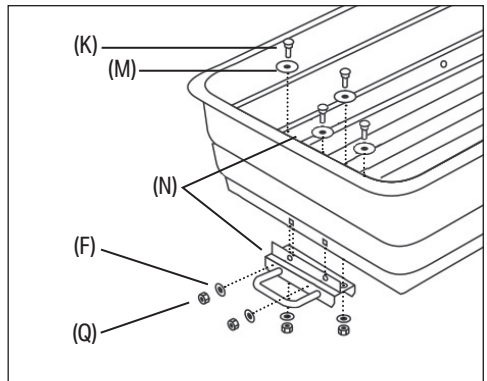

Fig. 2
2. Attach the lock assembly to the hopper - Fig. 2:
- a. Align the lock assembly (F) with the four holes at the straight end of the hopper.
- b. Pass four M8 x 20mm round-headed bolts (K) each through an M10 washer (M) and outward through the hopper and lock assembly.
- c. Secure each bolt in place with an M8 washer (N) and an M8 nylon-insert lock nut (Q).